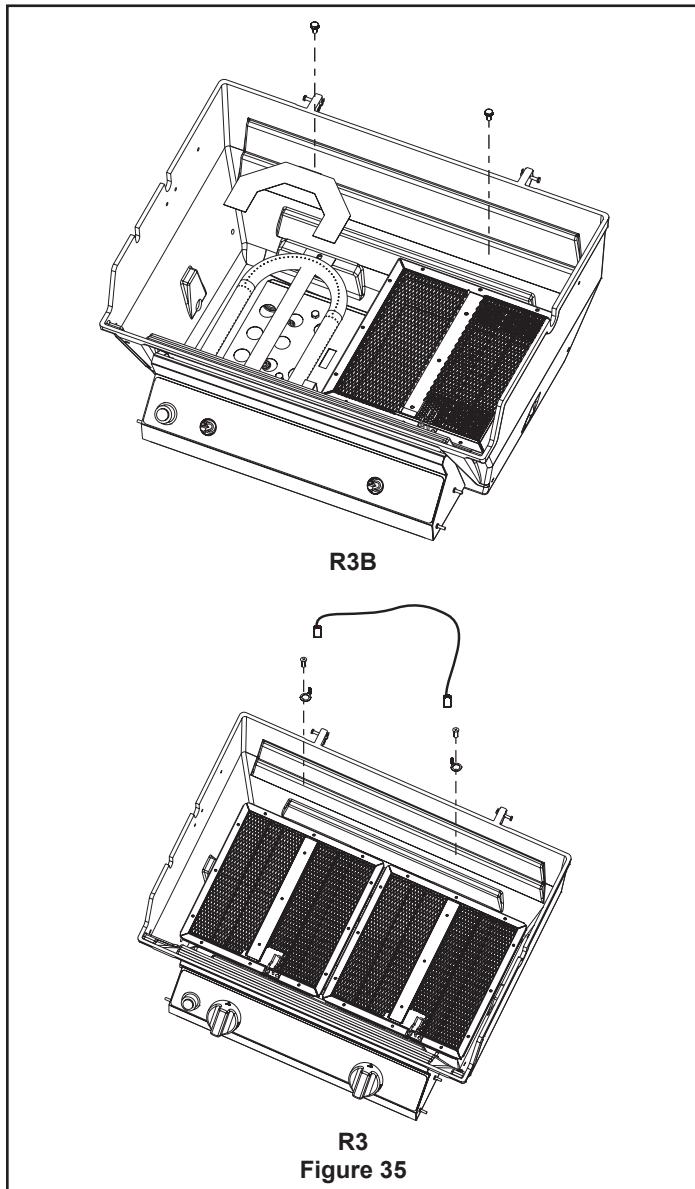

Figure 35
2. Blue Flame Burner: Remove blue flame burner shield and blue flame burner from grill (one 1/4-20 x 3/4 phillips screw for burner). **See Figure 35.** Infrared Burner: Remove ignitor wire, lugs and infrared burner from grill (one 1/4-20 x 3/4 phillips screw for each burner). **See Figure 35.**